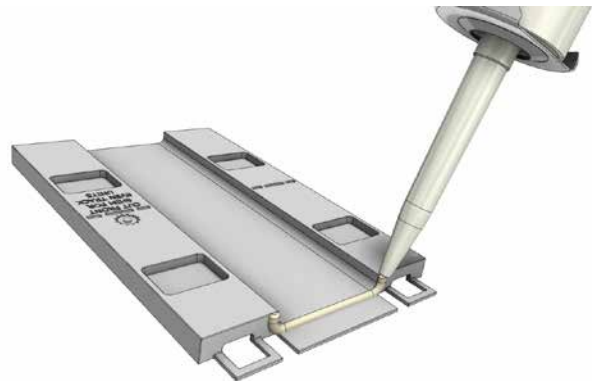

Fig S2
- Apply a thin bead of silicone sealant to the back of the shim extension (Fig. S2)